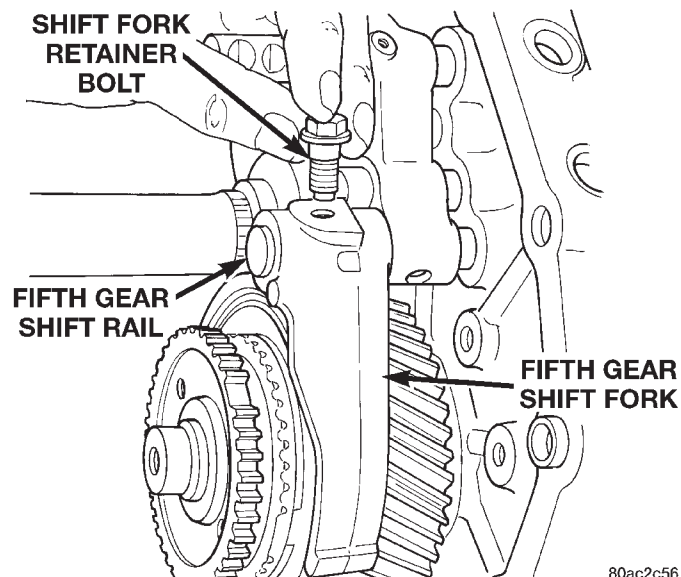

Fig. 51 Remove Shift Fork Retainer Bolt
(3) Remove bolt holding fifth gear shift fork to shift rail (Fig. 51).